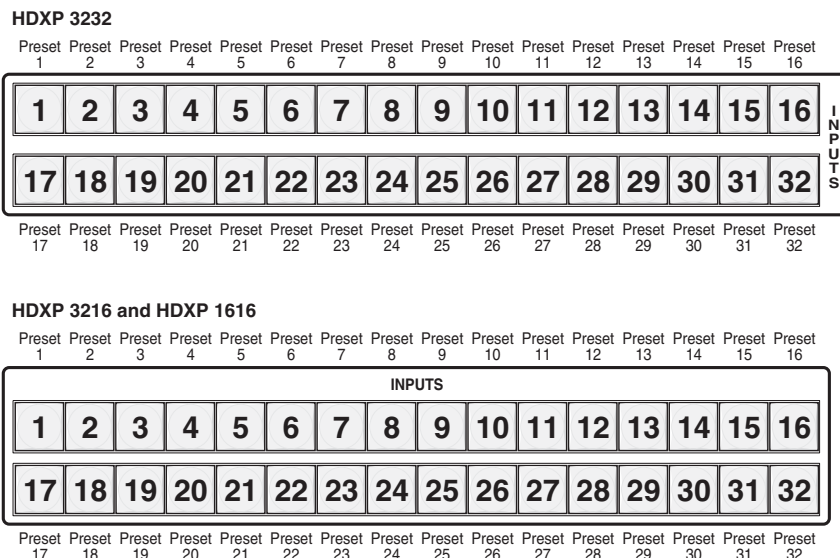

Figure 3-35 — Preset locations on the HDXP 3232, 3216, and 1616
- Figure 3-35 on the next page shows the presets associated with the input and output buttons on each HDXP model. (On the HDXP 1616, which has only 16 input connectors, input buttons 17 through 32 are used for presets, but not for input selection.)